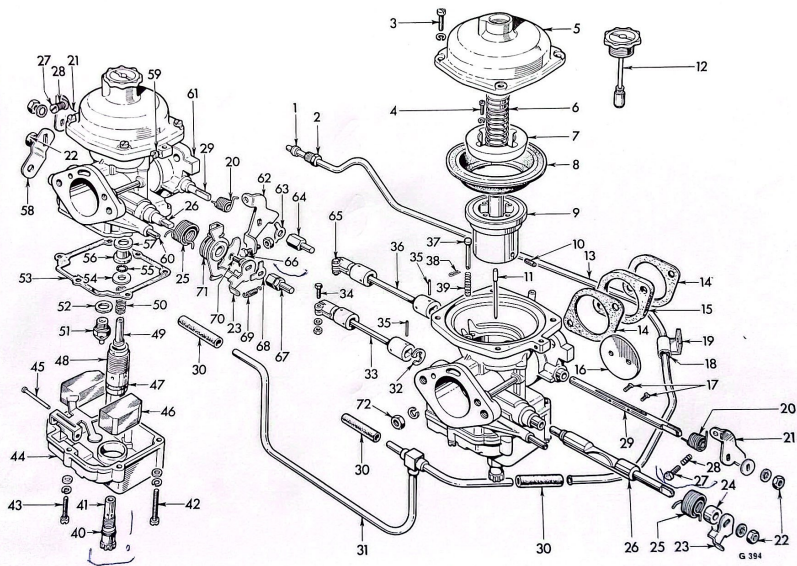

Fig. 2. Carburettor details
Installation (Fig. 2)
16. A locating tab is moulded on the inner and outer peripheries of the rubber diaphragm (8). These locate in a corresponding recess formed in the top face of the air valve (9) and in the top flange of the carburettor body. To assemble the diaphragm, locate the inner tab in the air valve recess and ensure that the inner bore of the diaphragm locates correctly around a shoulder formed on the top face of the valve. Place the retaining ring (7) over the diaphragm, insert the four screws (4) and tighten them securely.
17. Insert the needle (11) into its bore in the lower face of the valve and whilst the shoulder on the needle is held flush, relative to the lower face of the valve, tighten the screw (10). (Fig. 2)
Key to Fig. 2